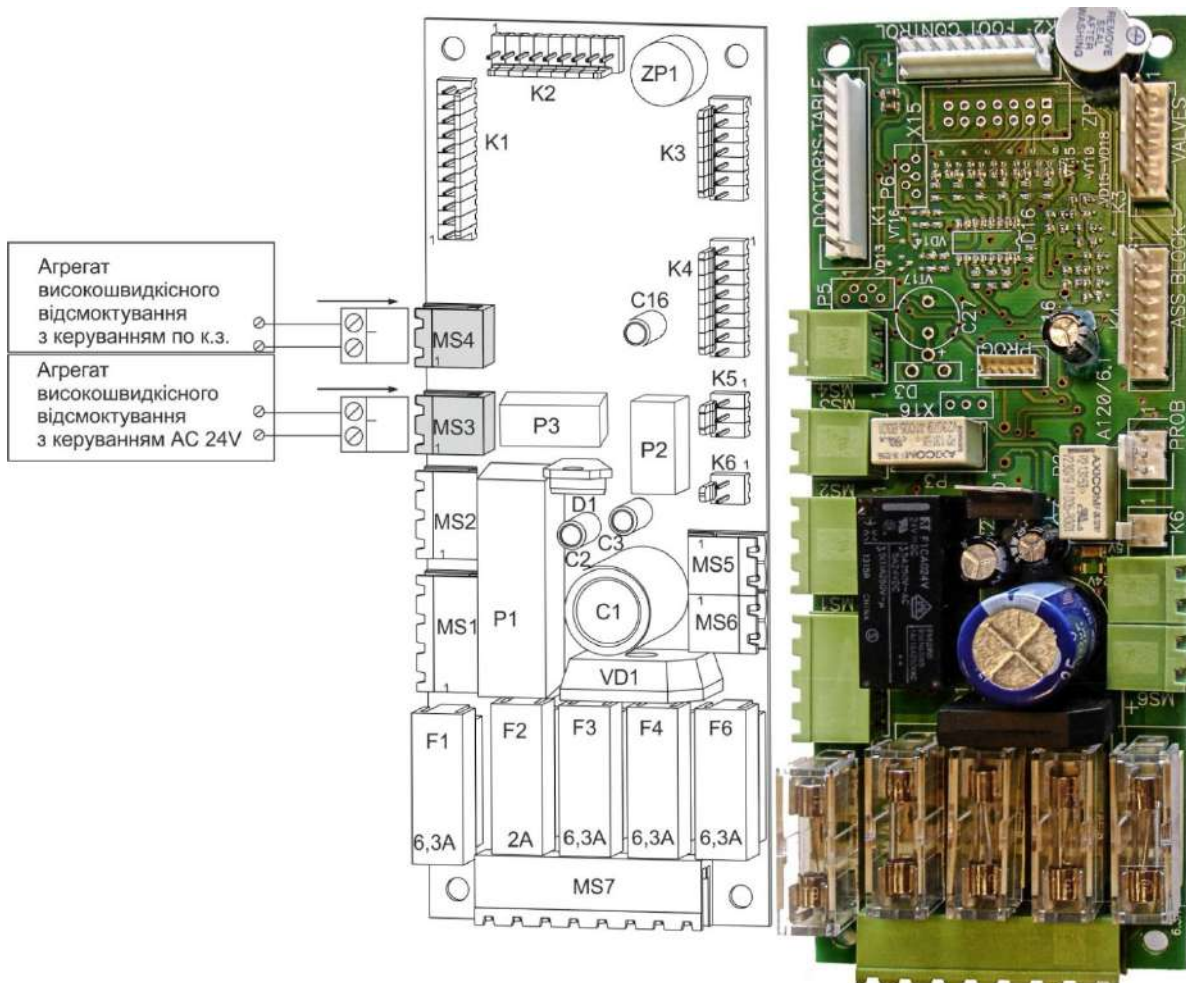

Fig. 3.1.1.
- connect the control wires of the suction aggregate to connector MS3 or MS4 on the water unit controller board of the dental unit according to Figure 3.1.1.